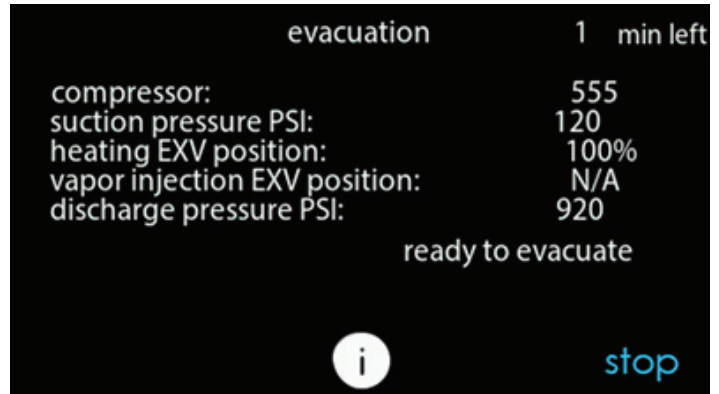

Fig. 25 – Evacuation Status Screen
5. Begin evacuation or refrigerant recovery as required for the procedure after UI indicates the EXV is open. Power may be removed from outdoor unit after the UI indicates "READY TO EVACUATE." See Fig. 25.